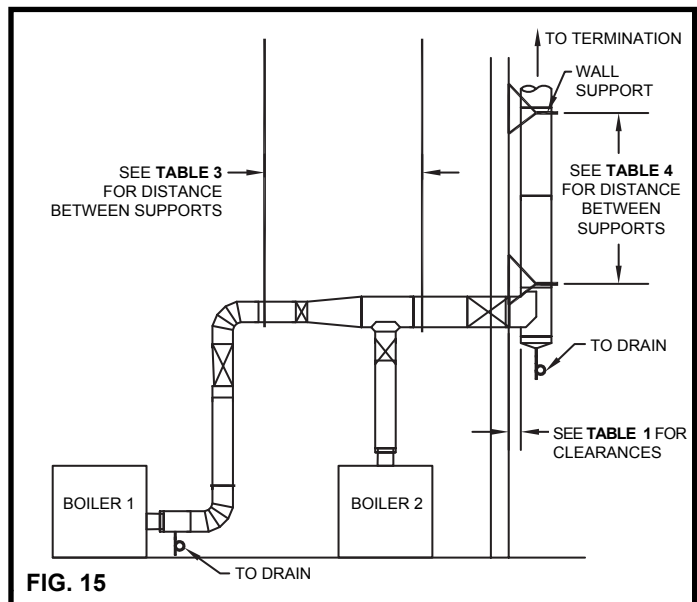

FIG. 15
1. There may be installations where Corr/Guard vent shall run vertically - exterior to the building and a wall band support is needed. A wall support (WS) is used to secure the vent system to a wall while maintaining the minimum clearance to combustible construction (See FIG. 15).